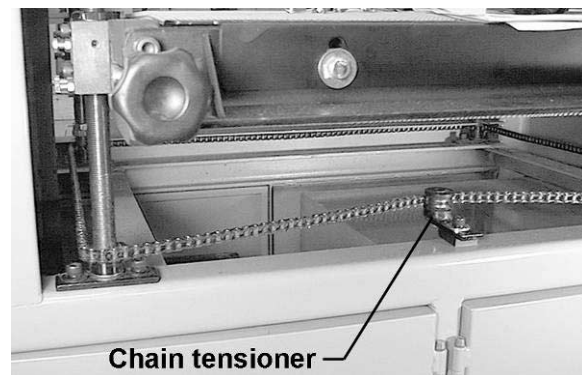

Figure 12
2. Loosen the socket head cap screw on the chain tensioner (Fig. 12) and slide the chain tensioner assembly forward to slacken the chain.